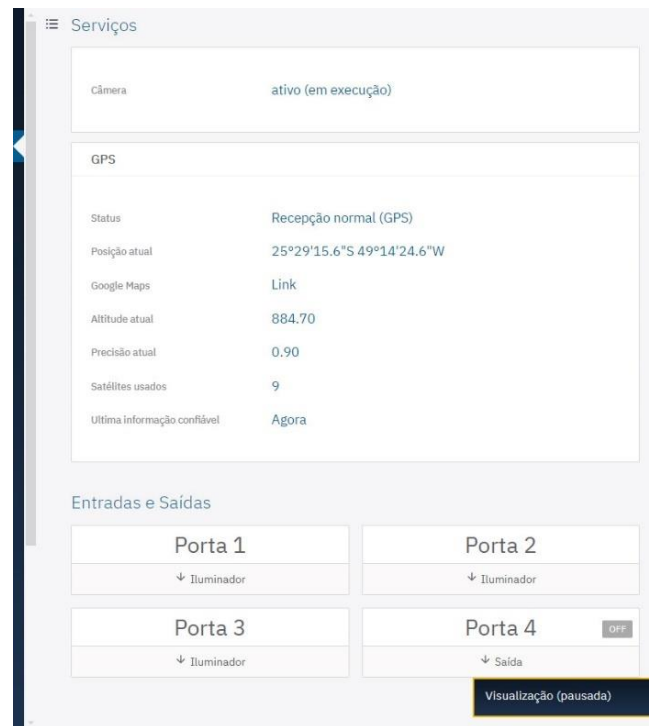

Figure 7 - Available data on the Current Status of Camera and GPS Services* and port connections
* When the device is able to establish communication with a GPS network, the main Geolocation information is displayed as the Figure 7 above.